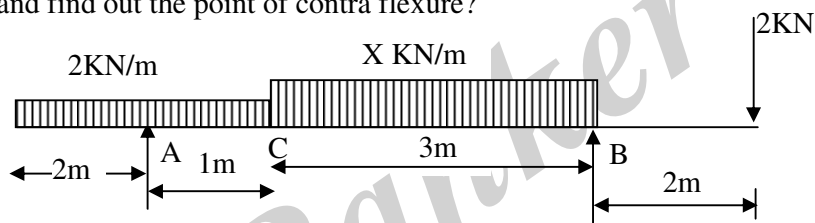

Figure 3
6. A beam with overhanging ends rests freely on two supports A and B is loaded as shown in Figure 3. What must be the intensity of loading in KN/m on the beam between C and B if the shearing force is to be zero at a cross section 1.5 m to the left of support B. Draw S.F and B.M diagram and find out the point of contra flexure?